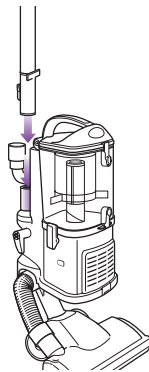

Fig. 8
- 3 Attach the end of the extension wand to the tube on the back of the detachable canister until it clicks into place. (Fig. 8)